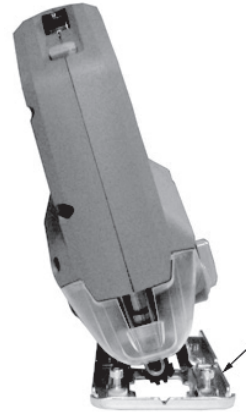

FIG.5
2. Move the base plate forward and tilt it until the desired angle is obtained the angle can be between 0°and 45°(left and right).(See Fig. 5)